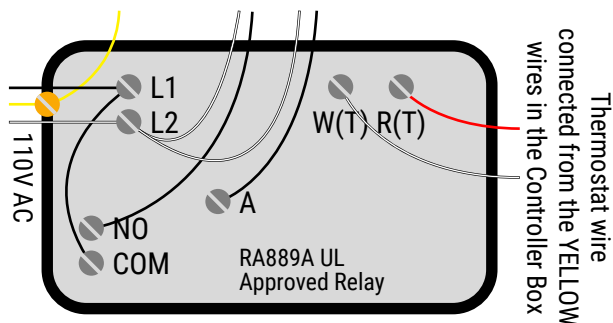

Fig. 23
- **Double Fixture Connection (Fig. 23):**